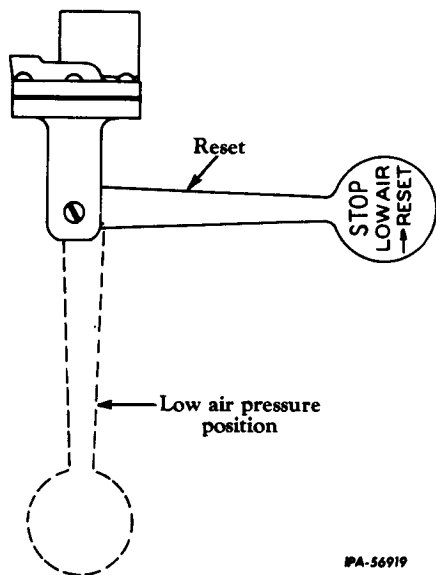

Fig. 4. Low Air Pressure Indicator
This indicator swings down when pressure in the air reservoir tanks drops below 60 psi ("low air pressure position" shown in Fig. 4).
Operate the engine with the transmission in neutral (N). When air pressure, as shown on the air pressure gauge (15) reaches 65 psi, manually place the arm in the "Reset" position shown in Fig. 4.